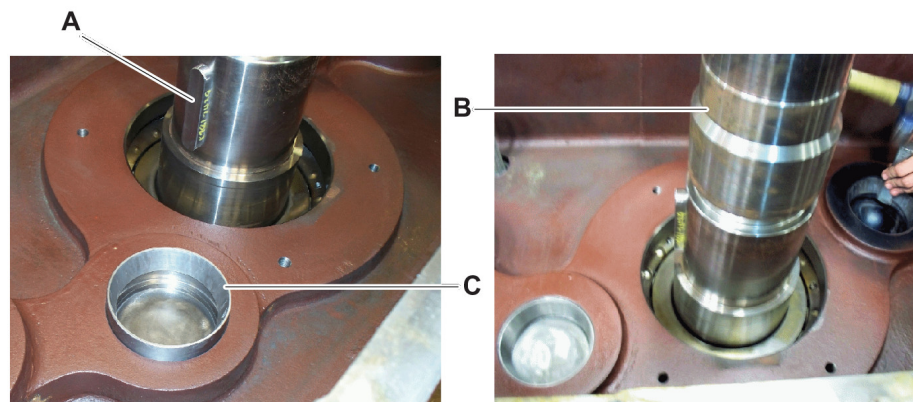

Figure 8
15. Insert key (Figure 8, item A) into the keyway of the spindle (item B). Retrieve both frozen lower intermediate bearing cups (item C) and quickly insert them into the housing.